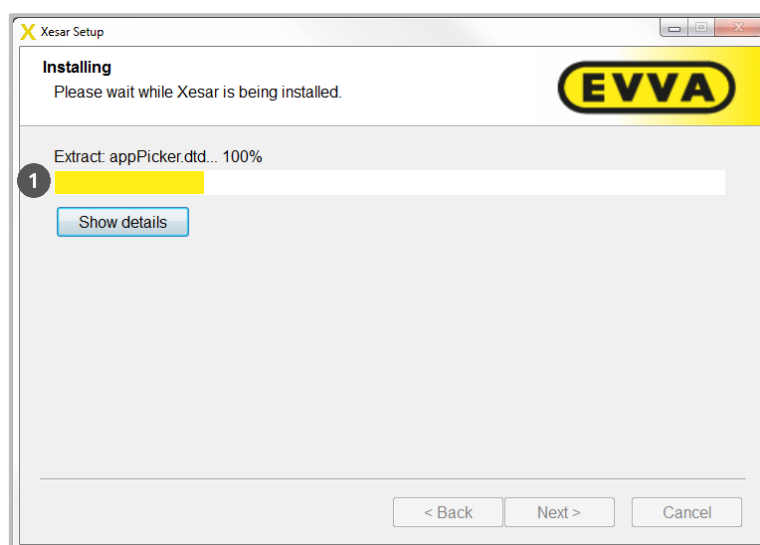

Figure 36: Xesar installation
❶ (Figure 36: Xesar installation).